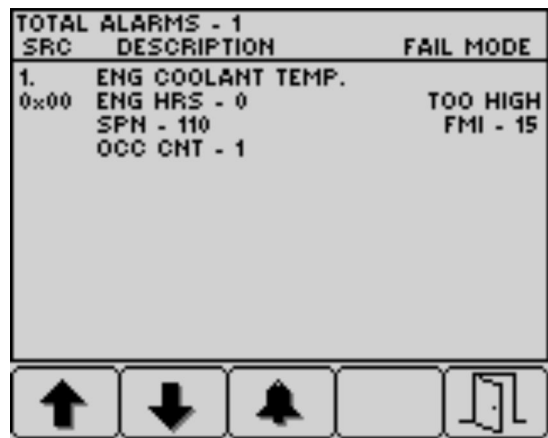

Figure 81
4. Press button 5 to exit the active fault list and return to the home screen (Figure 81).
5. Press button 5 to exit the active fault list and return to the home screen; refer to Figure 81 in Engine Advisories Messages (page 43).